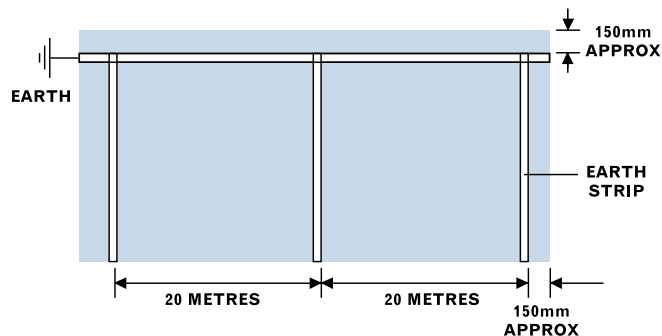

Figure 1 Earthing strip layout
- > The earth strip is laid 150mm from one side of the room, in the same direction as the vinyl sheets are to be laid. This strip is connected to a known earth (fig. 1).